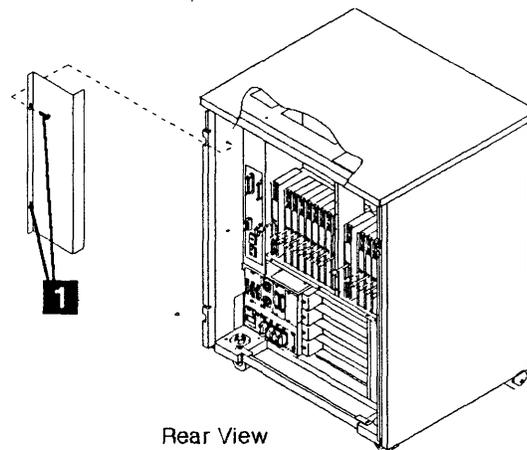

Figure 4-83. Power Supply 1 Cover
7. Take away the DMUX/PS1 cover. Refer to Figure 4-83. Two screws must be removed **1**.